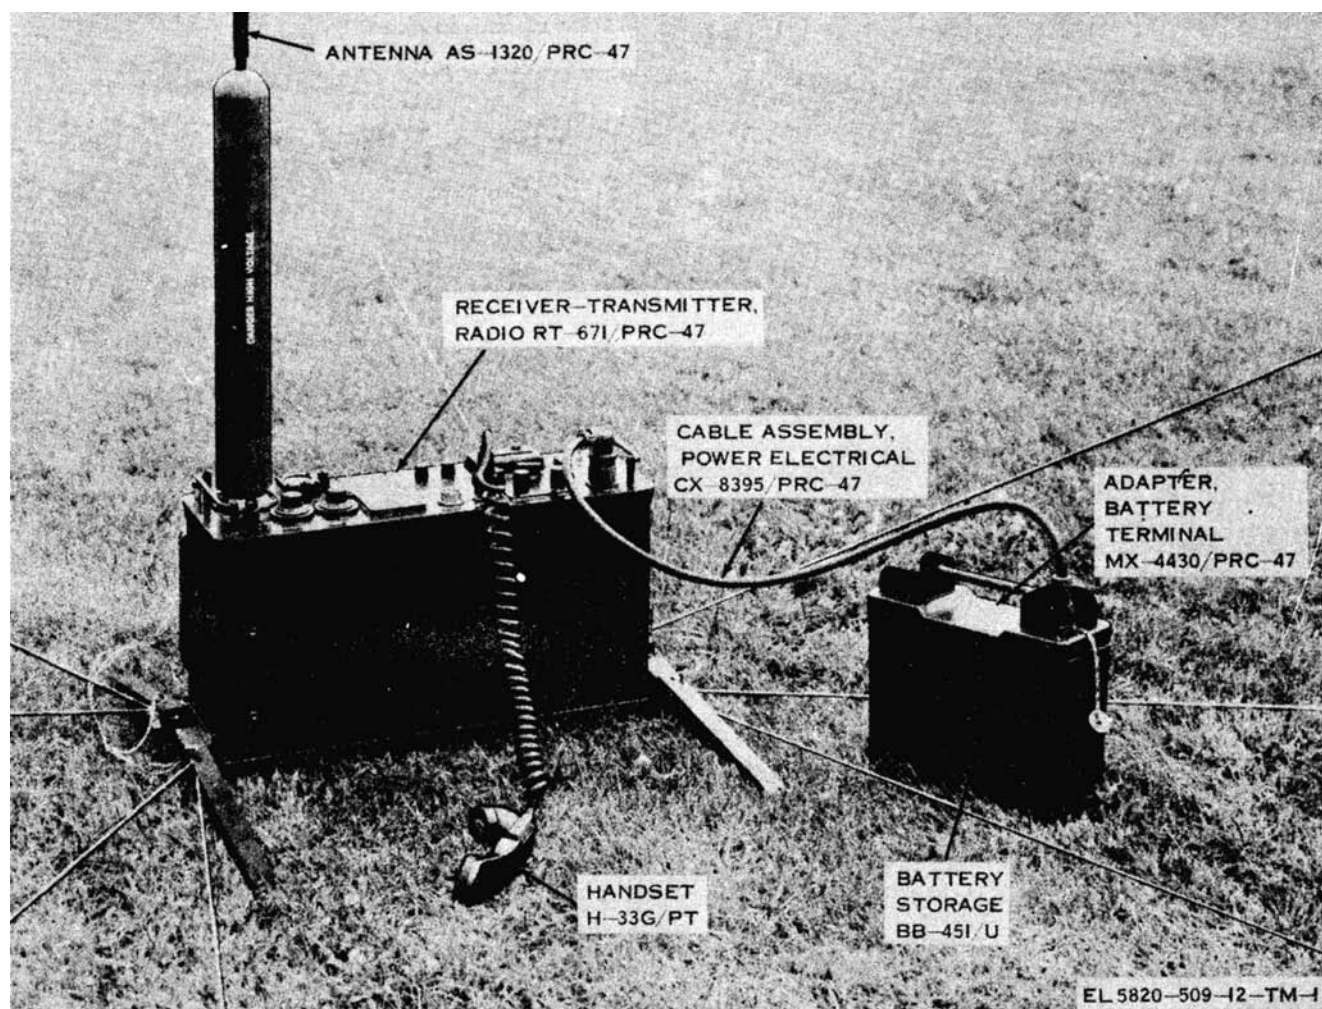
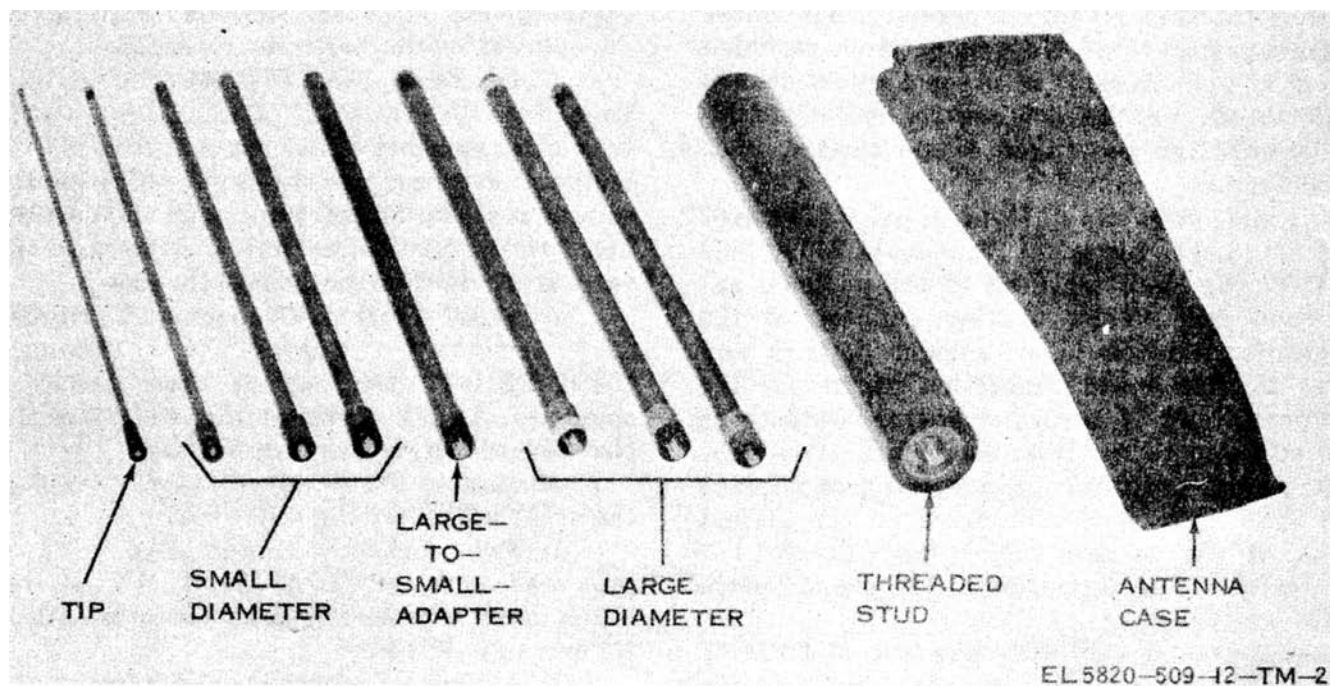

Figure 1-1. Radio Set AN/PRC-47
Figure 1-2. Antenna AS-1320 PRC-47
This manual describes Radio Set AN /PRC-47 (fig. 1-1) and includes instructions for installation, operation, organizational maintenance, shipment and limited storage, and demolition to prevent enemy use. The manual provides instructions for operation under usual and unusual conditions, and includes procedures for the cleaning, inspection, and maintenance of the AN/PRC-47 by the operator and organizational maintenance personnel. The repair parts list is contained in Appendix B and the maintenance allocation in Appendix C.
a. Purpose. Radio Set AN/PRC-47 (fig. 1-1) is a high frequency radio communications system. The radio set primarily provides 10,000 channels of upper sideband (usb) voice transmission and reception, continuous wave (cw) telegraphy, or frequency shift keying (fsk) teletype in the 2,000- 11,999-mHz frequency range. The radio set can be operated from its own control panel or controlled by a remote power control panel, such as Control Group AN/GRA-6, for at least a 2-mile distance.
Radio Set AN/PRC-47 (fig. 1-1) consists of several major units and a number of accessories that are required for operation. These major units are a receiver-transmitter, a silver-zinc battery, a power cable for battery (portable) operation that connects to a battery terminal adapter, a handset, and a whip antenna (fig. 1-2). In addition, an ac cable and a dc cable are provided for fixed station and vehicular operation respectively (fig. 1-3). The radio set is divided into two parts for portage; each part being attached to a separate rucksack frame for ease of handling (fig. 1-4). One frame carries the battery retainer and battery, battery cable, whip antenna, and accessory items required for portable operation. When desired to store the equipment, or when necessary to ship the equipment, a radio set case (fig. 1-5) is provided. The case is waterproof and compartmentalized to protect the individual radio set units and accessories, and is equipped with carrying handles that permit easy handling. The radio set units and accessories are described below.
d. Antenna AS-1320/PRC-47. Antenna AS-1320/PRC-47 (fig. 1-2) is a 15-foot whip antenna that is used in conjunction with the ground-plane radials attached to Legs, Electrical Equipment MT-2786/PRC-47. The antenna is sectionalized into eight 20-inch sections plus a 20 inch threaded stud and is stowed in a canvas carrying case attached to the accessories rucksack frame (fig. 1-4).
(b) Assemble the antenna before attaching it to the Receiver-transmitter Begin assembly from the large-diameter diameter threaded stud and work toward the tip section (fig. 1-2).